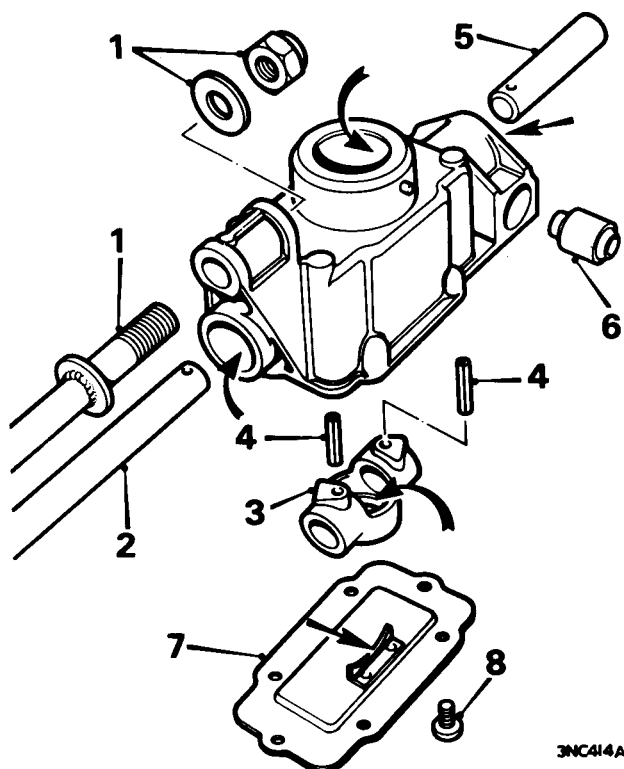

Fig. F.11
13. Use ½ oz (14 g) of Duckhams Laminoid 'O' Grease and apply with a brush onto the following parts and locations (arrowed), see Fig. F.11 when reassembling: